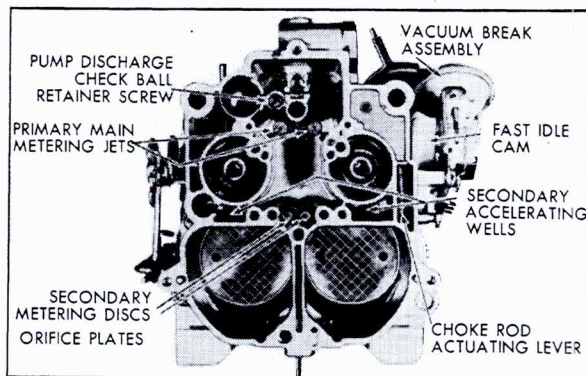

Fig. 6-72 Float Bowl Disassembled
11. Remove primary metering jets, Fig. 6-72. No attempt should be made to remove secondary metering plates.